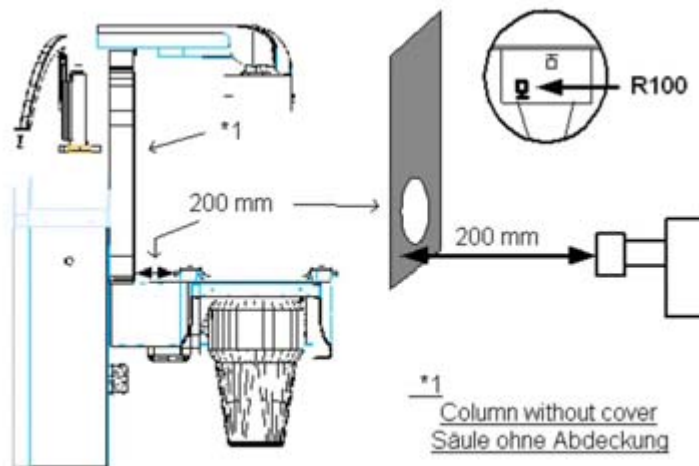

Fig. 37: Adjustment - tabletop transverse
- Use the service keys to move the table into reference position (Fig. 37 / p. 62).
The reference position of the table is 200 ± 1 mm distance from column to table accessory rails (Fig. 37 / p. 62).
Access: At table head end (see arrow (Fig. 37 / p. 62)).